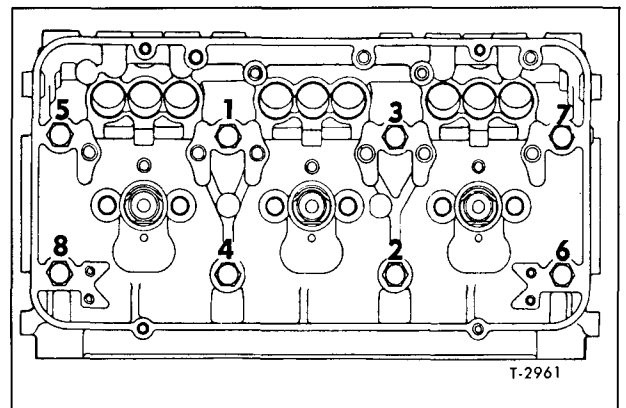

Figure 18—Cylinder Head Bolt Tightening Sequence
5. Tighten cylinder head bolts about one-half turn in sequence shown in figure 18. Use torque wrench for final tightening of cylinder head bolts.